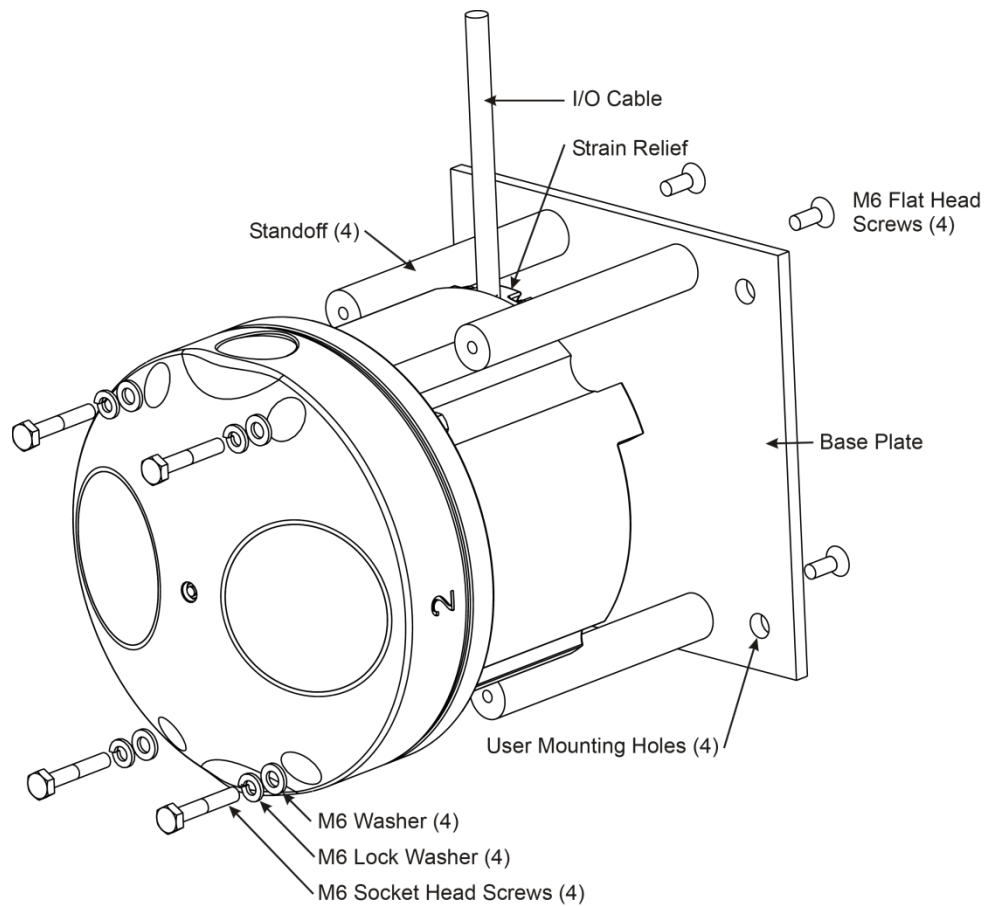

Figure 12. ChannelMaster Mounting Plate Overview
6. Slide the ChannelMaster into the mounting fixture and secure the ChannelMaster by using the provided four M6 socket head screws, lock washers, and flat washers through the holes on the ChannelMaster transducer head (see Figure 12).